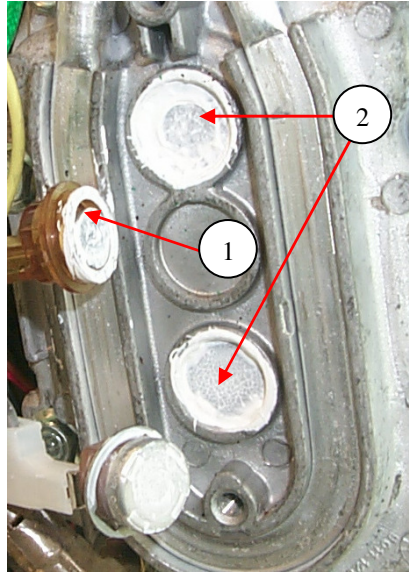

Fig. 31
Attention: The metal cylinder (Fig. 31/1) of the thermal sensor (KTY) must be transferred from the old KTY to the new KTY when the KTY is replaced!
- d) When re-assembling ensure that sufficient heat conductive paste is used (Fig. 31/2).
- e) Remove the two connections of the boiler heating system on the underside of the boiler (1) **Attention:** The boiler heating system connection can be distinguished from the gear resistor by a green marking (2)! Take note of this when re-assembling (to avoid damage to the electronic system).